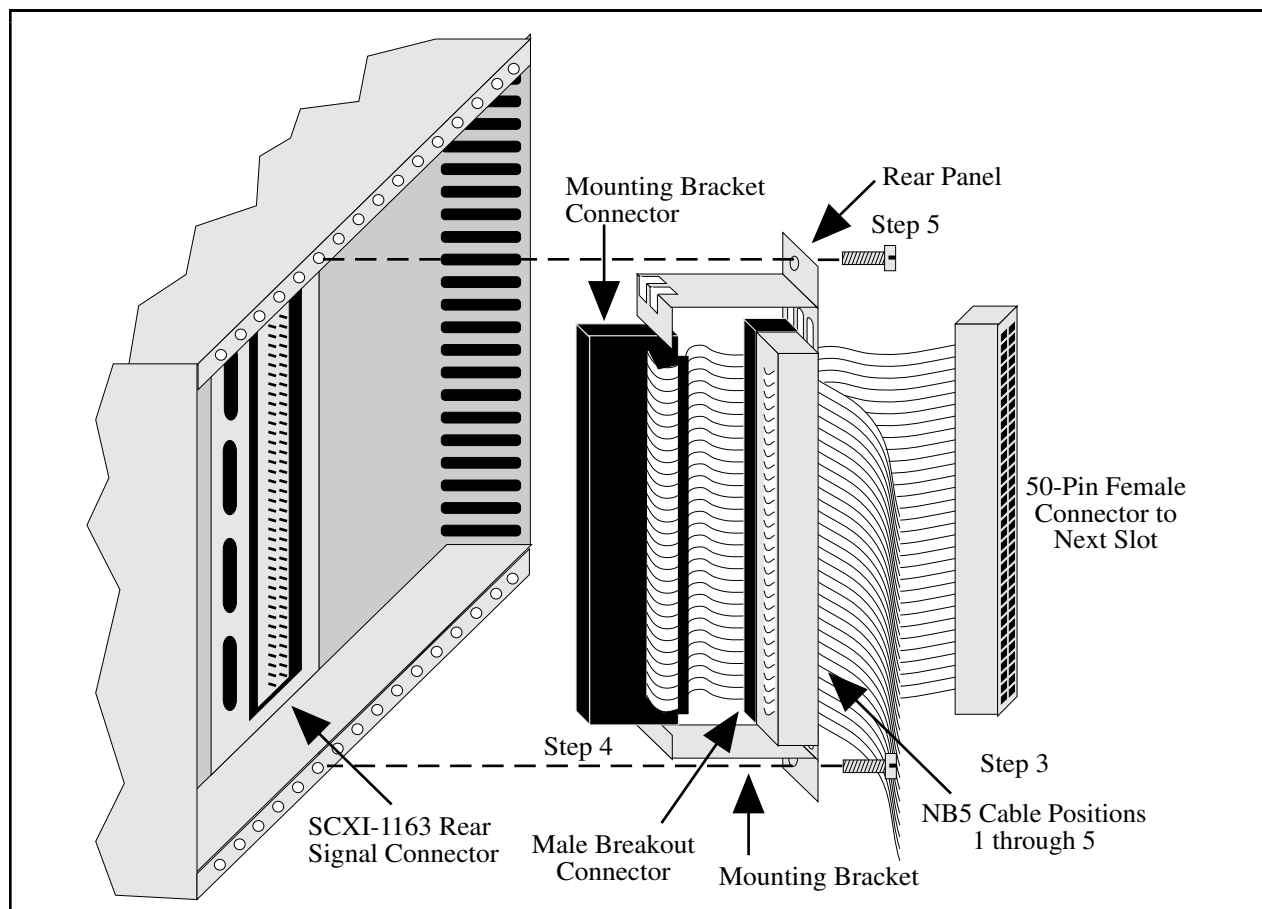

Figure E-2. SCXI-1351 and NB5 Cable Installation
4. Plug the mounting bracket connector onto the module rear signal connector (see Figure E-2). An alignment tab on the bracket will enter the upper board guide of the chassis.